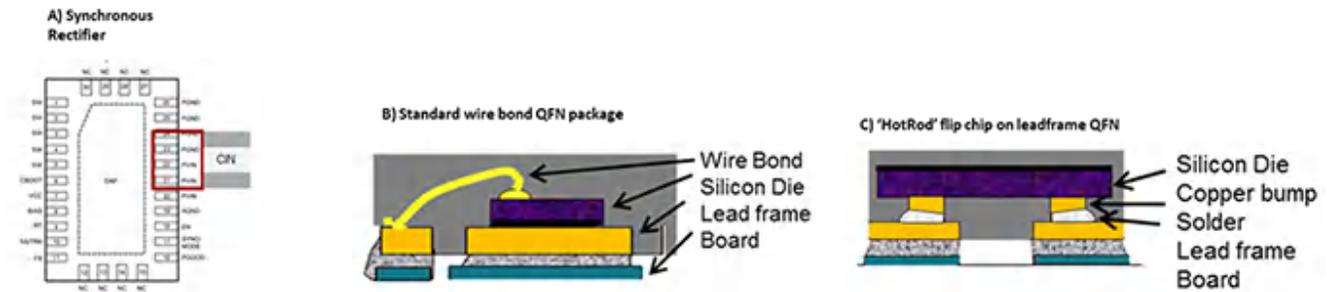

Figure 3. A.QFN Package Capacitor Placement, B.QFN Wire-bond and C. HotRod™ Packaging
Synchronous switching DC/DC regulators have both FETs integrated inside the package, which makes it easier to optimize the area of the critical path. With the two FETs integrated, only the input capacitor, C_{IN} , requires proper placement. The input capacitor minimizes input voltage ripple, suppresses input voltage spikes and provides a stable system rail for the device, ensuring lower EMI. The ease of C_{IN} placement depends on the packaging technology and pin-out. It is important to have the V_{IN} and $PGND$ pins close to each other. In TI power modules, we recommended placing the capacitor C_{IN} closest to V_{IN} and $PGND$, as shown in Figure 3, to minimize the area of the critical path. A small, low-value capacitor C_i is placed internal to TI power modules. In addition to C_{IN} capacitor selection and optimizing critical path layout, the choice of power module packages discussed below also helps improve performance.
- To further reduce the area of the critical path, our HotRod™ technology eliminates the bond wires completely. The die is flipped so that its active side is facing down, and copper bumps are deposited on the die pads and soldered directly to the lead frame. Using copper bumps instead of bond wires lowers the series resistance, shrinking package size further and bringing the C_{IN} even closer to the V_{IN} and $PGND$ pins. Figure 3 shows the QFN and HotRod™ packages.